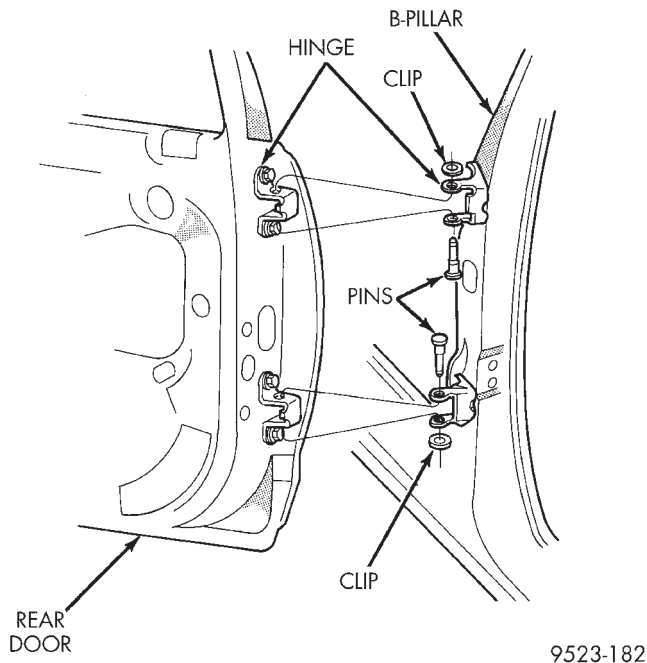

Fig. 58 Rear Door
- (1) Open and support door on a suitable lifting device.
- (2) Disengage wire connector at hinge pillar.
- (3) Remove bolts holding door check strap to B-pillar.
- (4) Remove clip holding hinge pin in lower door hinge (Fig. 58).
- (5) Remove pin from lower hinge.
- (6) Remove clip holding hinge pin in upper hinge.
- (7) Remove pin from upper hinge.
- (8) Separate door from vehicle.